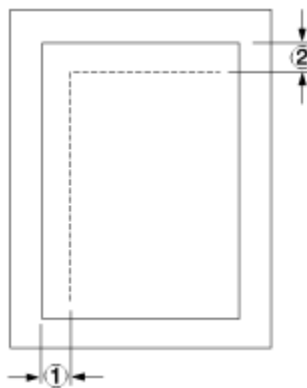

Figure 20: LINEONE Coordinates
“Defining Logical Page Size” on page 32 shows how to define the size of a logical page. The next two examples show you how to position the first line of data inside the logical page by using the LINEONE subcommand. This subcommand position is relative to the logical page origin, as shown in Figure 20 on page 33. The two coordinates, (1) and (2), of the LINEONE parameter define the starting point for the first line of text.